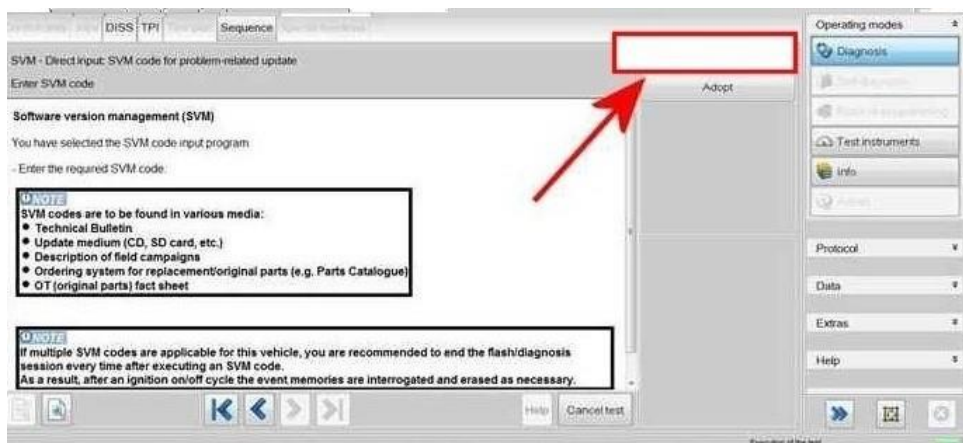

Figure 2
2) Referring to Figure 2 - Enter the SVM code 370WAD01